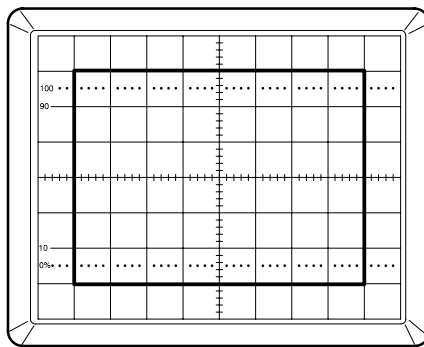
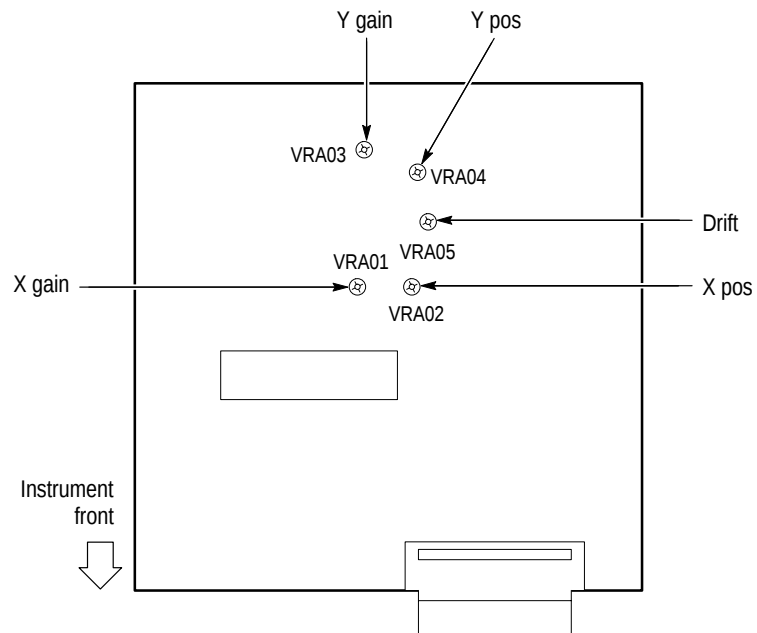

Figure 12: Cursor Calibration Display
Figure 13: Control and I/O Board (Viewed from the Instrument Top)
To locate the adjustments for the following procedures, refer to Figure 13. The Control and I/O board occupies the top left-hand corner of the instrument.
2. On the Control and I/O board, adjust the following potentiometers to position the alignment square as shown in Figure 12. See Figure 13 for the adjustment locations.